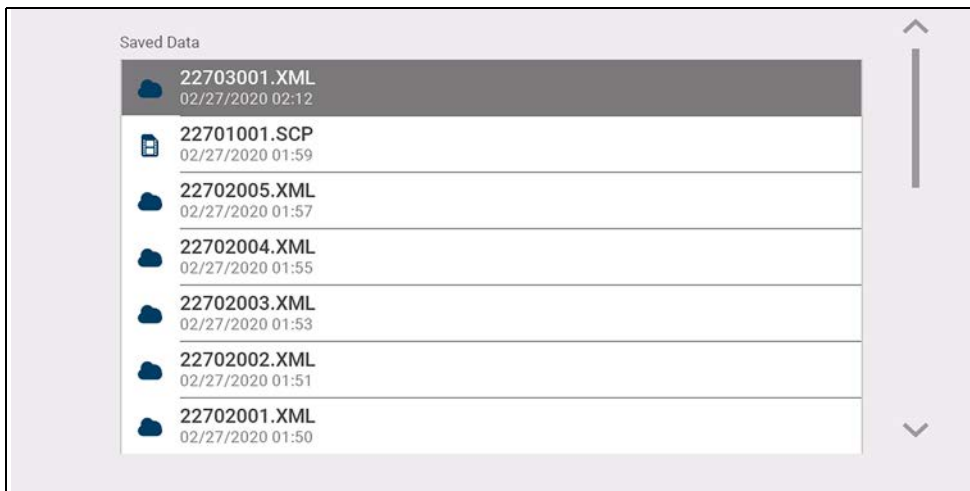

Figure 10-2
- **All Saved Data** - Lists all saved files (Figure 10-2)
Code scans and single system code results are saved as (.XML) files, and can be selected from the All Saved Data list or Scanner list (Figure 10-2).